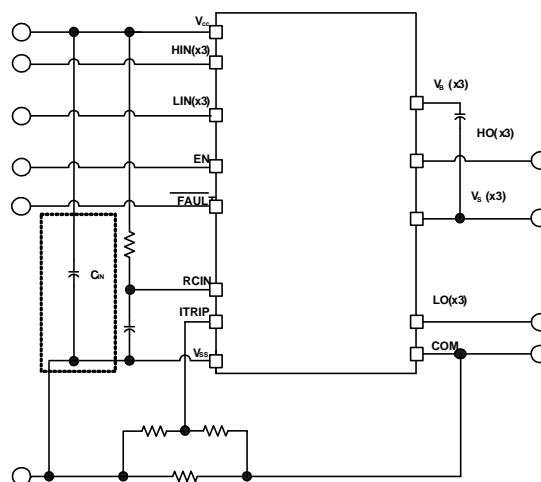

Figure 35: Supply capacitor
**Supply Capacitor:** It is recommended to place a bypass capacitor ( $C_{IN}$ ) between the  $V_{CC}$  and  $V_{SS}$  pins. This connection is shown in Figure 35. A ceramic 1  $\mu$ F ceramic capacitor is suitable for most applications. This component should be placed as close as possible to the pins in order to reduce parasitic elements.